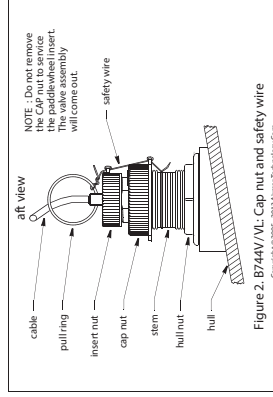

Figure 2. B744V/VL Cap nut and safety wire
Being sure the valve assembly is seated firmly within the housing, carefully screw the CAP nut in place (Figure 2). Hand-tighten only. Do not over tighten.
- Attach the safety wire to prevent the insert from backing out in the unlikely event that the cap nut and/or insert nut falls or is screwed on incorrectly. Wrap one end of the safety wire tightly around the stem of the housing and twist it together with the long end (figure 2). Keeping the wire taut throughout, lead the wire straight up and through one eye in the CAP nut. Thread the wire through the eye a second time. Lead the wire in a counterclockwise direction and thread it through the eye in the INSERT nut. Thread the wire through that eye a second time. Loop the wire through the pulling ring and twist the wire securely to itself.